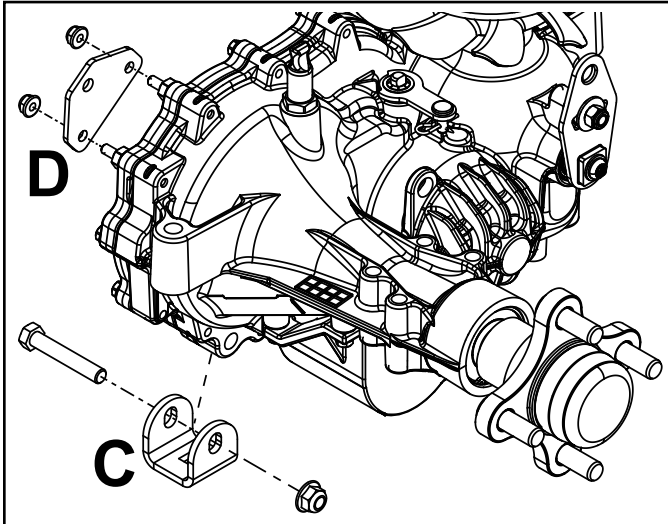

Fig. 071
1. **Wide Frame Only** – If a new hydro assembly is being installed, transfer the (2) mounting brackets (C and D) to the new hydro assembly and torque the fasteners to specification; C - 30 ft-lbs. (40 Nm) and D - 8 ft-lbs. (14 Nm) (Fig. 071).